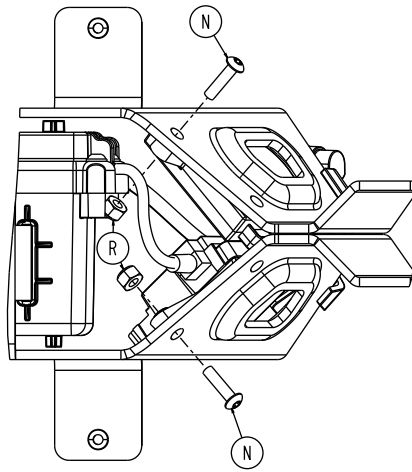

Figure 62 – Remove the wireless module screw and nut
7. Using a T25 Torx driver and a 3/8" combination wrench, remove the button head cap screw (N) and Fiberlock nut (R) that secure the wireless module, if equipped, and the NFMIC module to the cot, if equipped (Figure 62). Save the screw and nut.